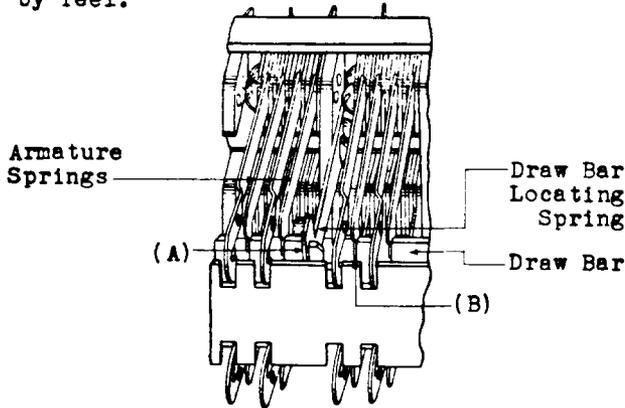

Fig. 10
2.12 Draw Bar Locating Spring Tension - Fig. 10 (A) - The draw bar locating springs shall rest against the shoulders of the draw bar with the relay operated. Gauge by feel.
(a) 229 and 230 Type Relays - Fig. 10 (B) - Each armature spring shall rest against the side of the draw bar slot farther from the armature arm when the relay is unoperated. Gauge by feel.
(b) 229- and 230- type Relays: Fig. 10 (B) -